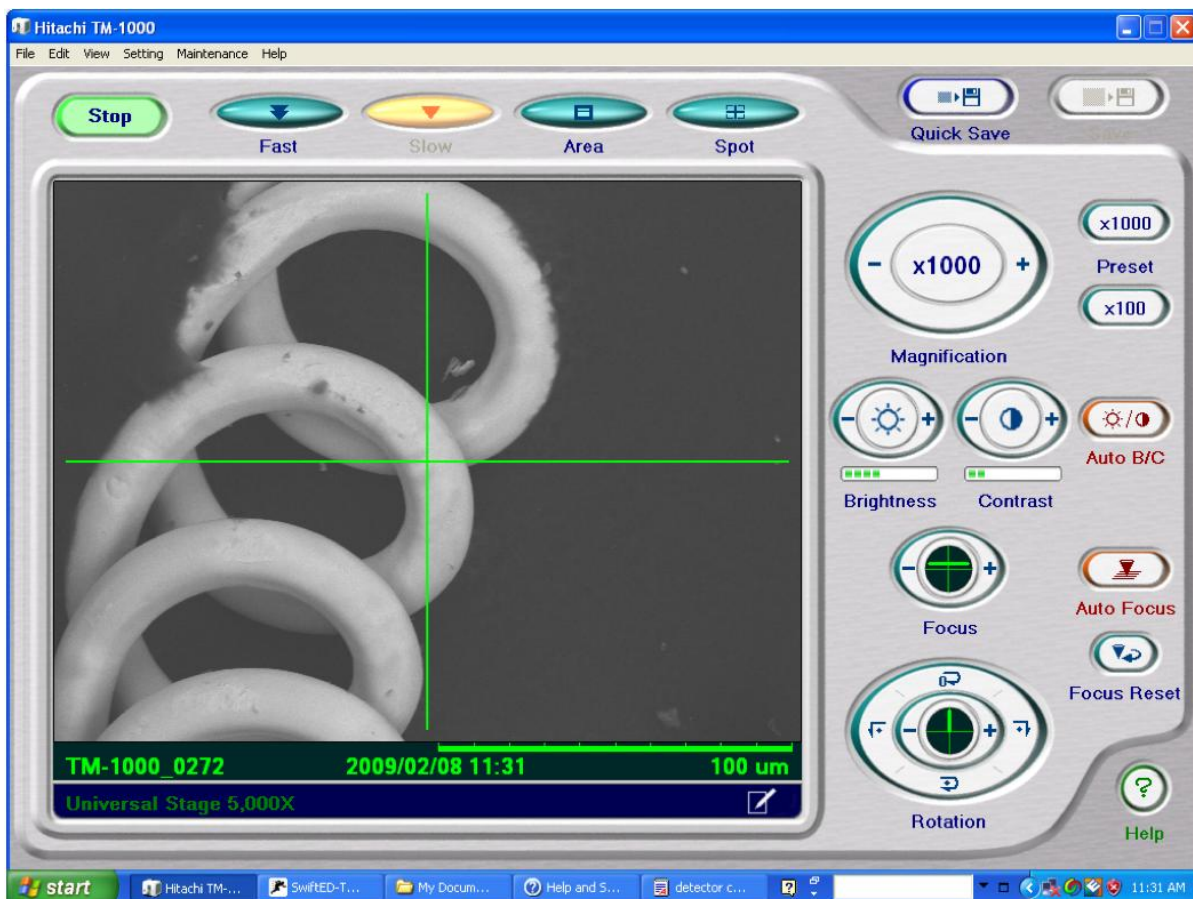

Figure 1
5. Start the TM-1000 program. (Figure 1)